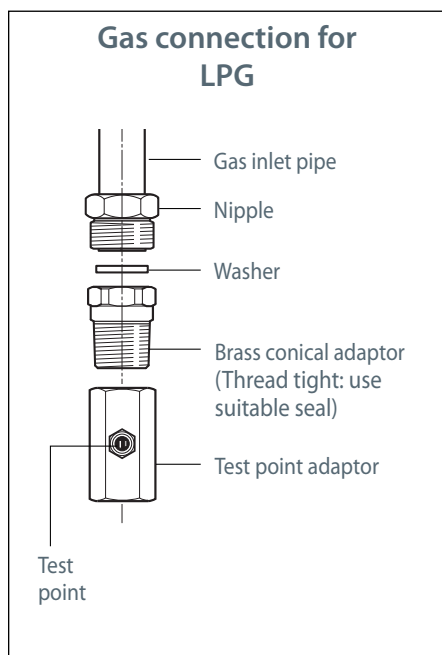

Fig. 7 LPG gas connection
- For LPG, connect the gas supply to the test point adaptor which is supplied with the appliance (Fig.7). Ensure that the supply pressure is regulated to 2.75 kPa.